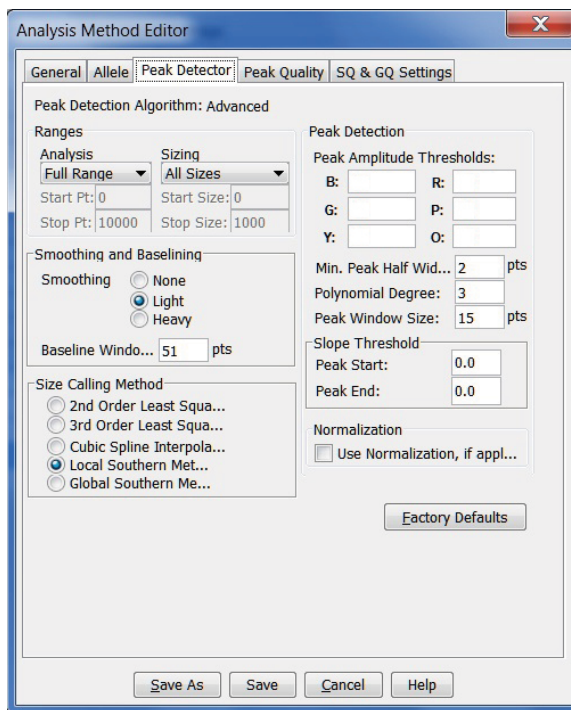

Figure 13. The GeneMapper® ID-X 'Peak Detector' tab.
9. Select the 'Peak Detector' tab (Figure 13). You will need to optimize these settings. In-house validation should be performed.